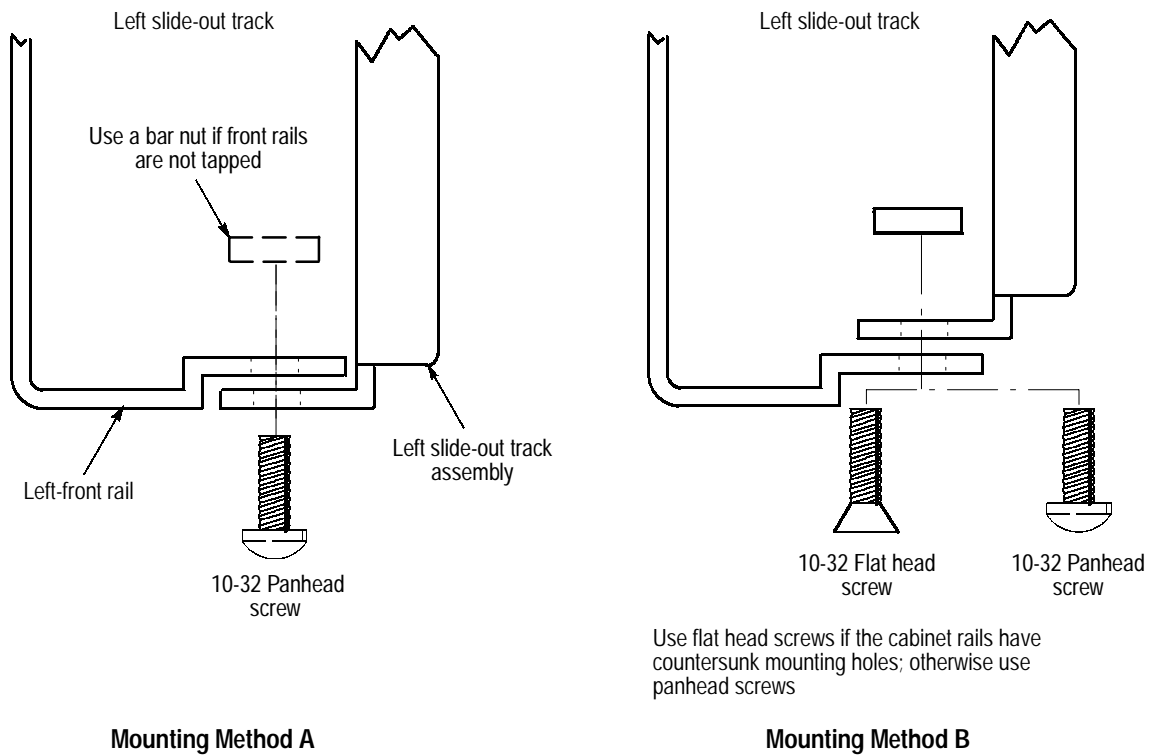

Figure 29: Installation of slide-out track assemblies in rack (top view)
- To mount the slide-out tracks with their front and rear flanges outside of the front and rear rails, use method A shown in Figure 29 when doing step 3. Add a bar nut to the installation only if the rails have untapped holes.
- To mount with front and rear flanges inside of rack rails, use mounting method B shown in Figure 29. This mounting method assumes untapped holes.